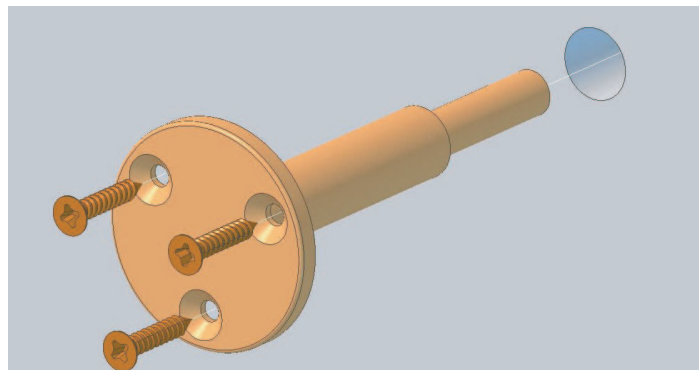

Fig. 1 Azimuth pivot bolt inserted through base of groundboard
2) Carefully flip the mount over to reveal the base of the ground board and insert the supplied Az encoder bolt, passing it through the ground board and through the base of the rocker box as shown in Fig. 1. Place some masking tape on the base of the ground board beneath the mounting holes of the circular base plate of the bolt. Using the holes in the base plate as a template, 'spot' the wood with a small diameter spot drill or 2mm (5/64") diameter drill bit, drilling approx. 2mm deep, being careful not to crack the white Melamine material. The masking tape can provide some assistance in this regard.